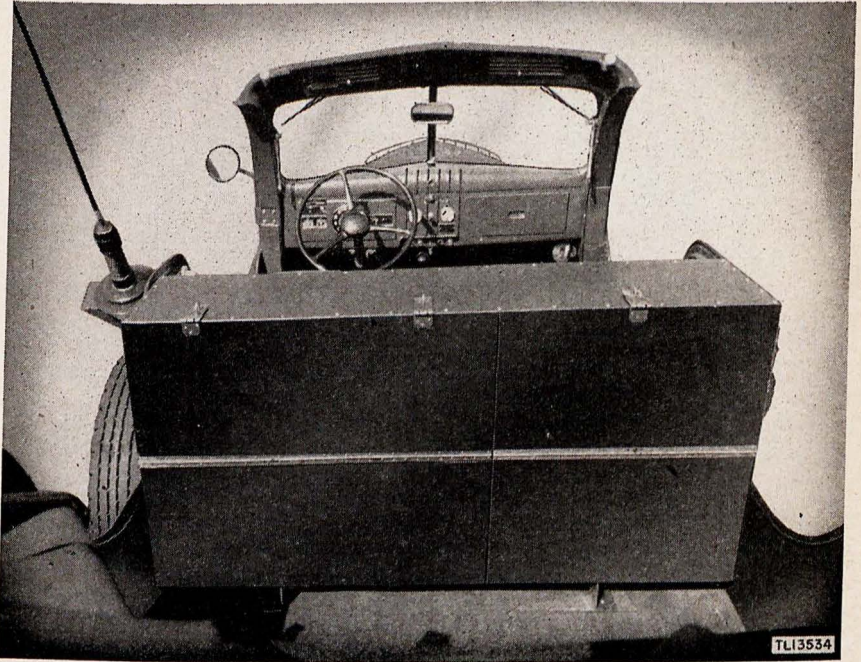

Figure 9. Cabinet CH-60.
e. CABINET CH-60 (fig. 9). Cabinet CH-60 is a steel cabinet with two hinged removable doors. It is divided into three compartments by means of metal partitions. In Radio Sets SCR-193-H, and -T, it houses the receiver, transmitter and dynamotor.